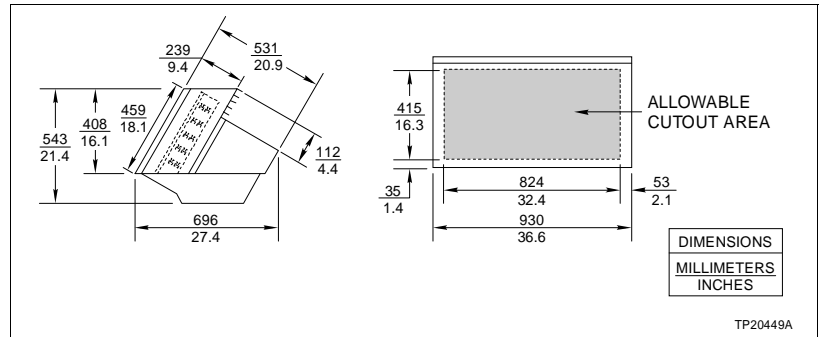

Figure PR32-2. Auxiliary Panel Customer Cutout Area
- 8. Make the cutouts for customer-installed equipment. Figure PR32-2 shows the allowable cutout area.